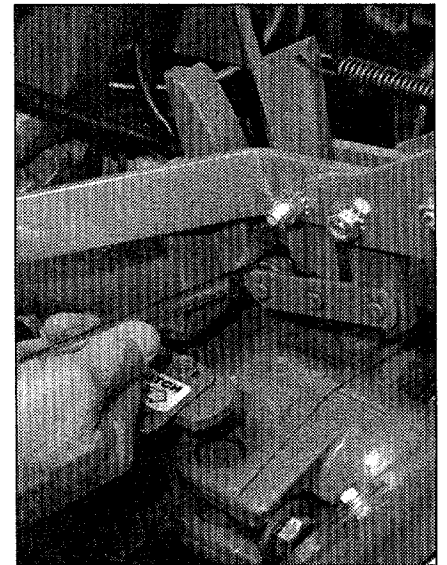

Figure 5-13: Insert slotted end of belt adjustment tool between roller and bracket, with the flat side of the slotted end facing the roller.
- Without moving the clutch roller, try inserting the $1/4$ "-thick, slotted end of the belt adjustment tool in between the roller and the upright bracket. (The flat edge of the tool must be facing the roller.) Refer to Figure 5-13.